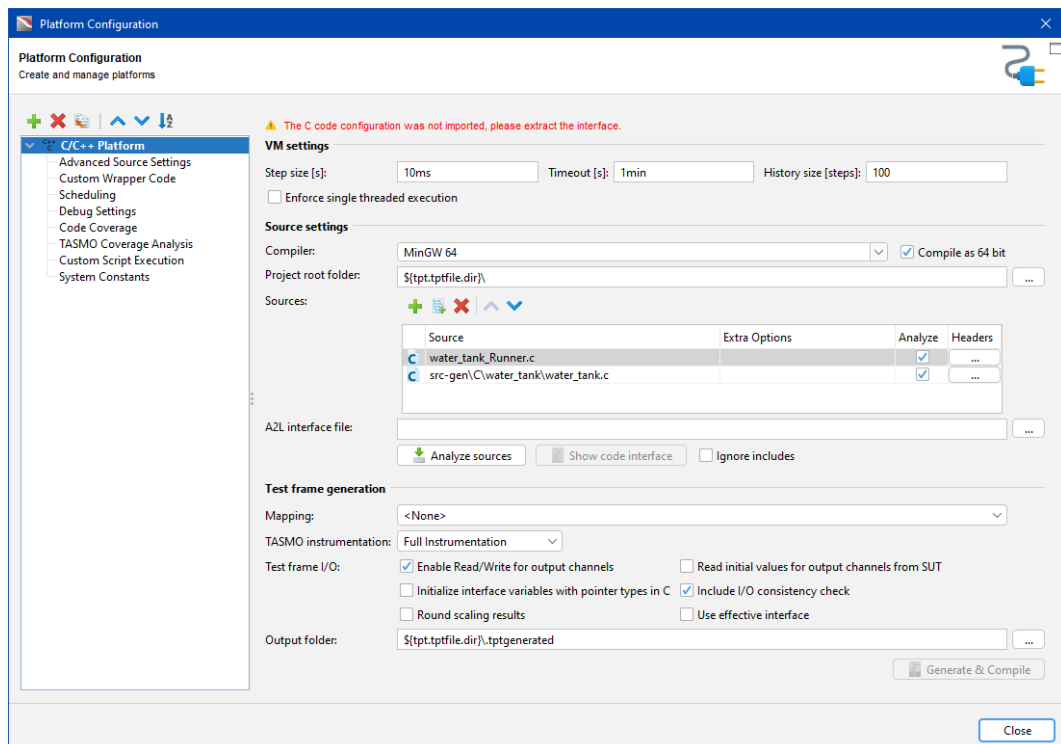

Figure 92. "Platform Configuration" window with configured platform
1. In the "C/C++ Platform" node of the "Platform Configuration" window (Figure 92), click the **Analyze sources** button.